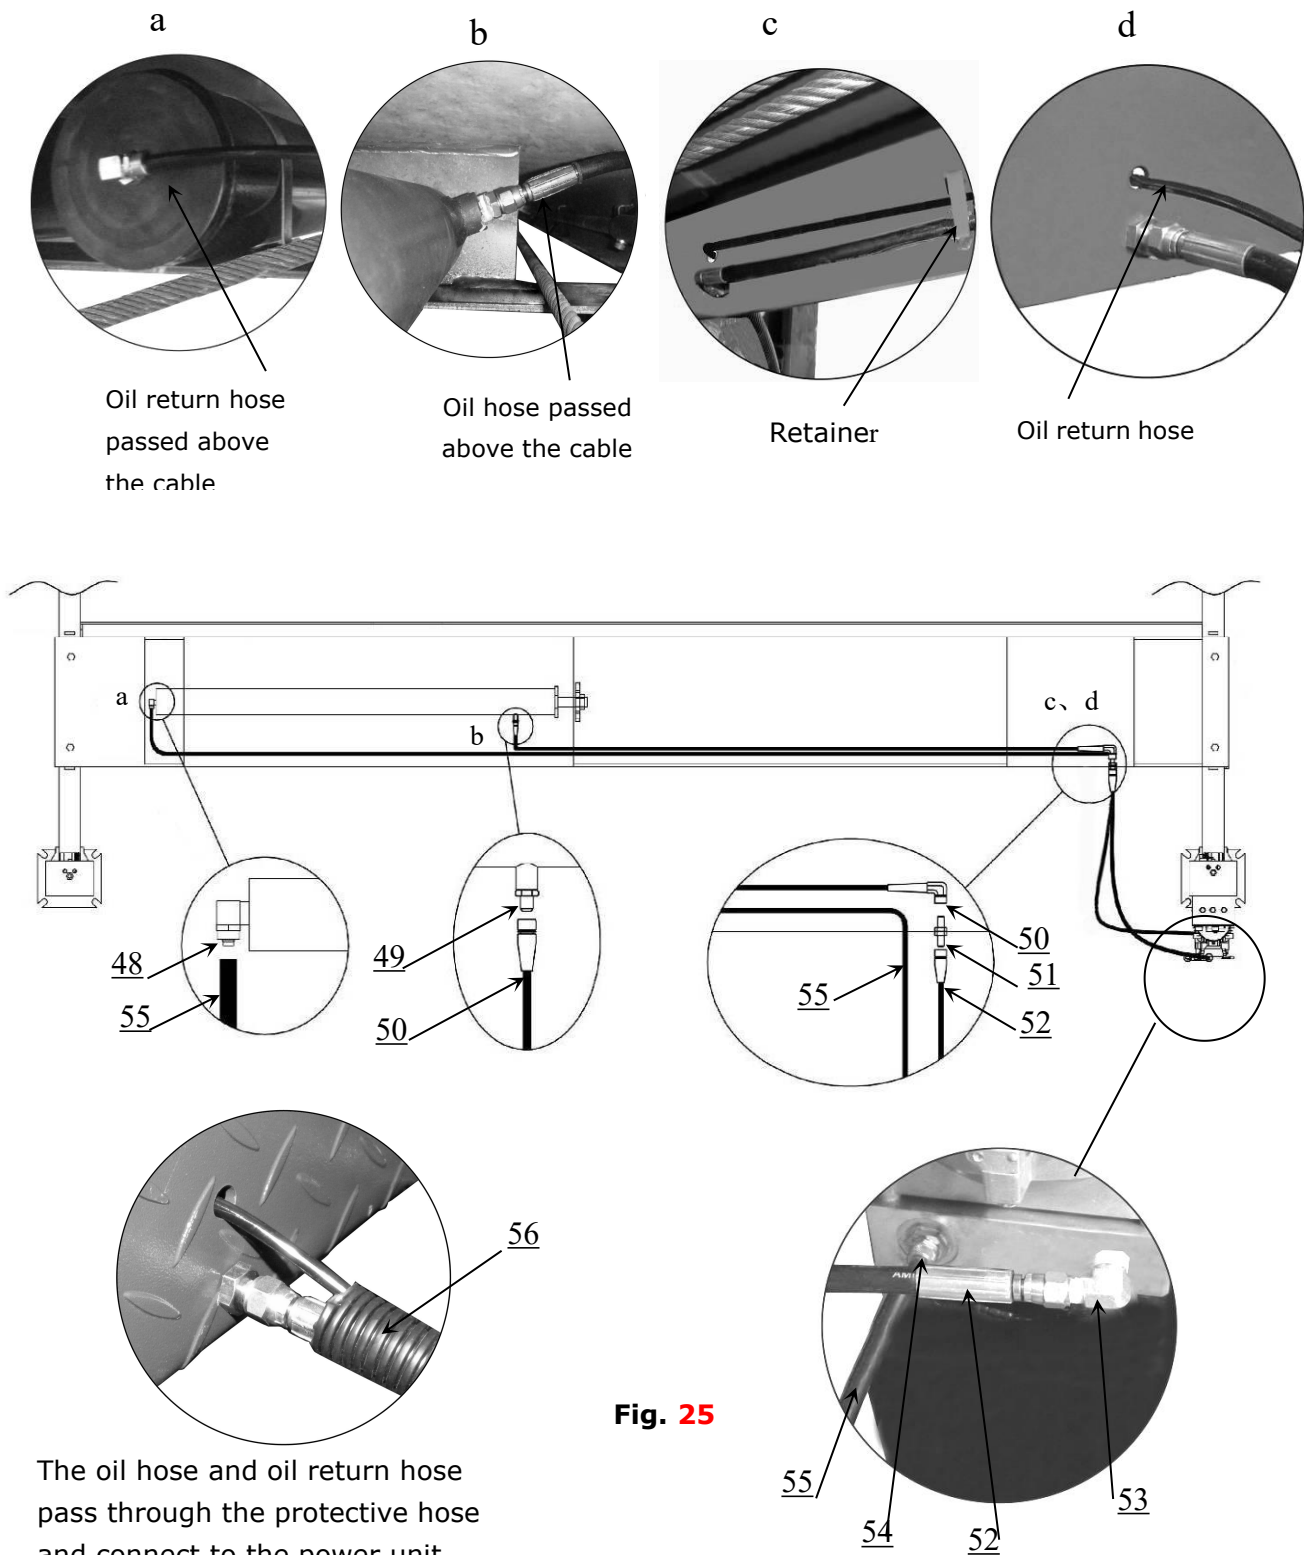

Fig. 25
1. For power unit attached to the column of cross beam **A** (See Fig. 25)